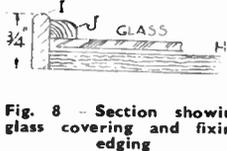

Fig. 8—Section showing glass covering and fixing edging
Then, to hold the glass securely in place, as well as to strengthen the framing, a beading of small section wood is mitred and glued round above the glass. In Fig. 8 we see a section through the table top. Here (H) is the plywood back, (I) the mitred edging and (J) the top inner beading. The glass is here shown lifted away from the plywood to make room for the decorative overlay on the backing.
We give in Fig. 8 a simple method of making the table top. First a square of $\frac{1}{2}$ in. plywood is cut 1ft. 8 $\frac{1}{2}$ ins., and the rough edges carefully and thoroughly cleaned. Around this is then nailed an edging of $\frac{3}{8}$ in. by $\frac{1}{4}$ in. or $\frac{3}{8}$ in. hardwood with the top edge rounded nicely and made smooth. If anything in the way of embroidery or a thin wood overlay is to be the decoration, then this is laid on the polished plywood and a sheet of glass laid over it. This glass is cut to the same size, of course, as the plywood.